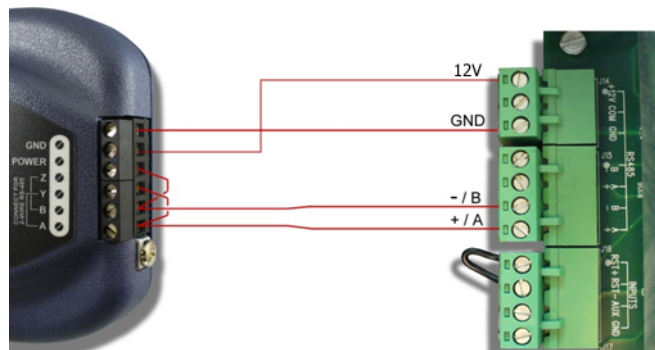

Figure 1: Gateway and Chillgard RT Connections
The Chillgard RT can be used to power the gateway from its 12V supply by connecting J14 terminals 1 (+12V) and 3 (GND) to the gateway's terminal block at terminals TB:5 (POWER) and TB:6 (GND) as shown in Figure 1. For RS-485 communications, connect J15 terminals A (+) and B (-) on the Chillgard RT to the gateway's terminal block at terminals TB:1 (A) and TB:2 (B) as shown in Figure 1. Additionally, a jumper wire must be placed on the gateway's terminal block between terminals TB:1 (A) and TB:3 (Y). Another jumper wire must be placed between terminals TB:2 (B) and TB:4 (Z). as shown in Figure 1.